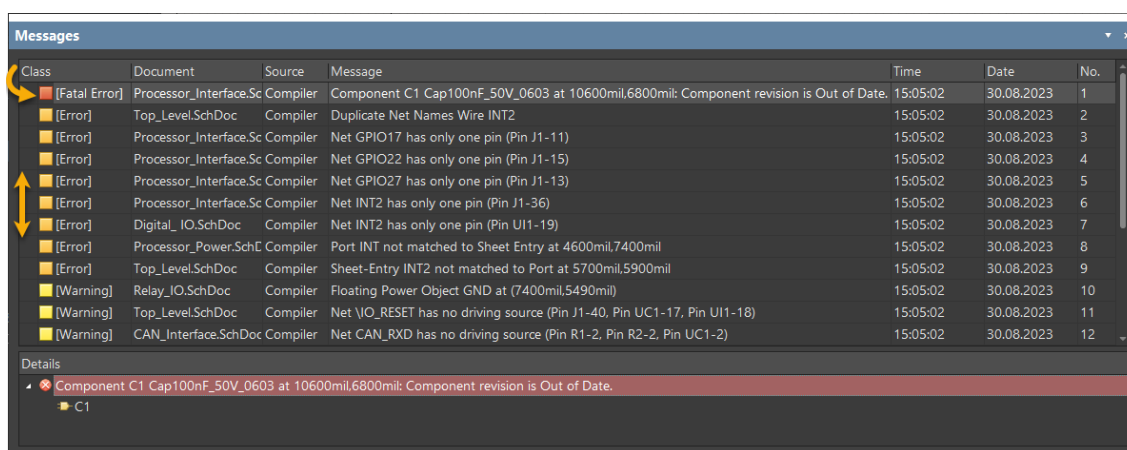

Figure 4. Net <name> only has one Pin error in the Messages panel
22. If not already done, sort the listings in the *Messages* panel to group the *Warnings*, *Fatal Errors* and *Errors* by clicking the **Class** column header until the *Fatal Error* are brought to the top of the list as shown in Figure 4. Feel free to enlarge the *Messages* panel to see all of the details.
23. You should see 3 “Net GPIOXX has only one pin” Errors in the *Messages* panel as shown in Figure 4 below.
25. Double click the Fatal Error message, Figure 4.